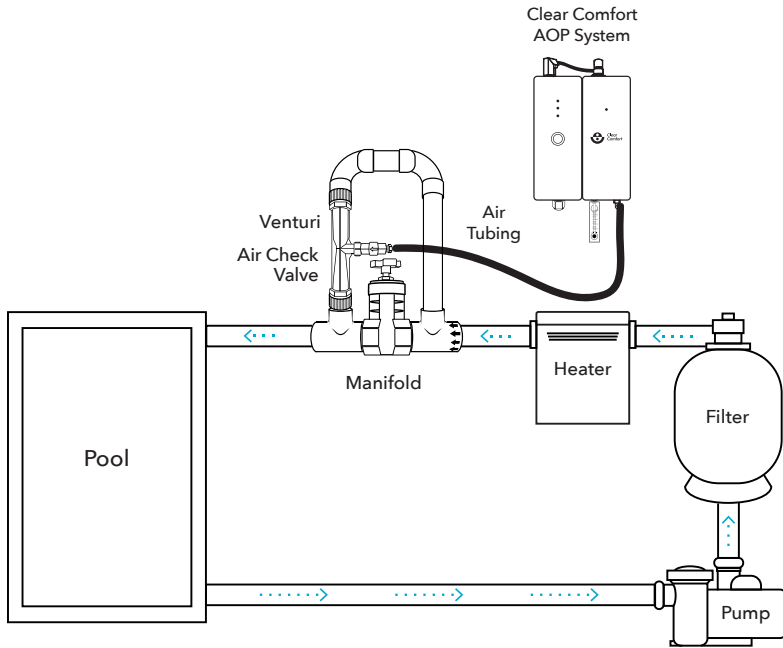

Figure 5: Full System Diagram With Manifold Injection
1. Install plumbing according to Figure 5.